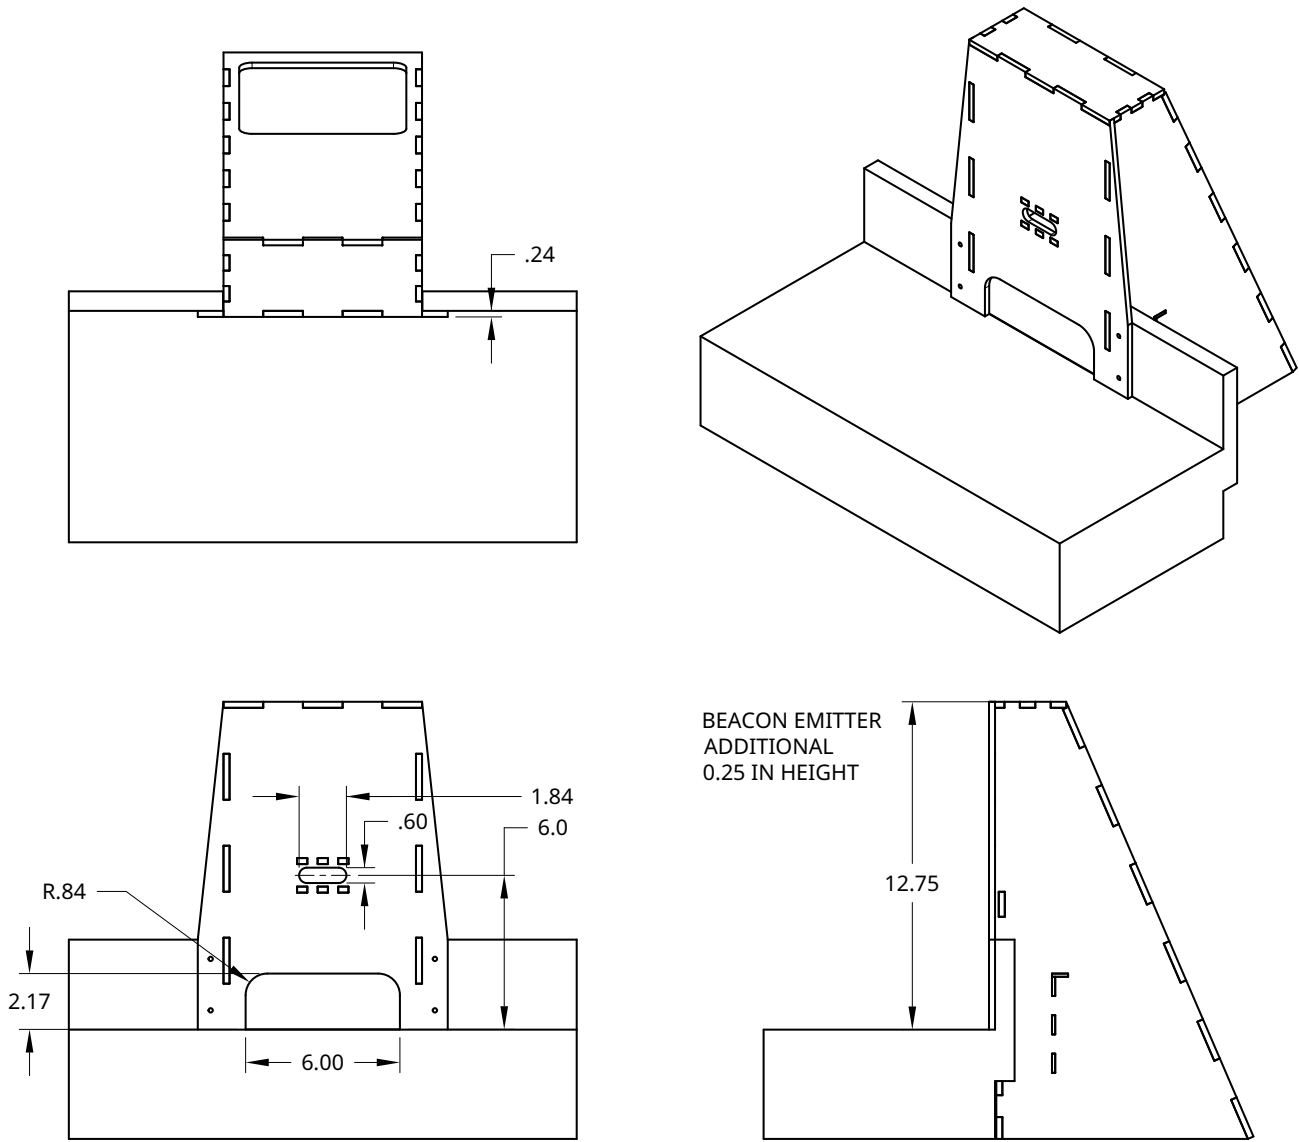

Figure 3: The reload station.
- Figure 3 shows dimensioned and isometric views of a recycling center.
- GARBAGES must be delivered to the recycling center through the aperture at floor level shown in Fig. 3.